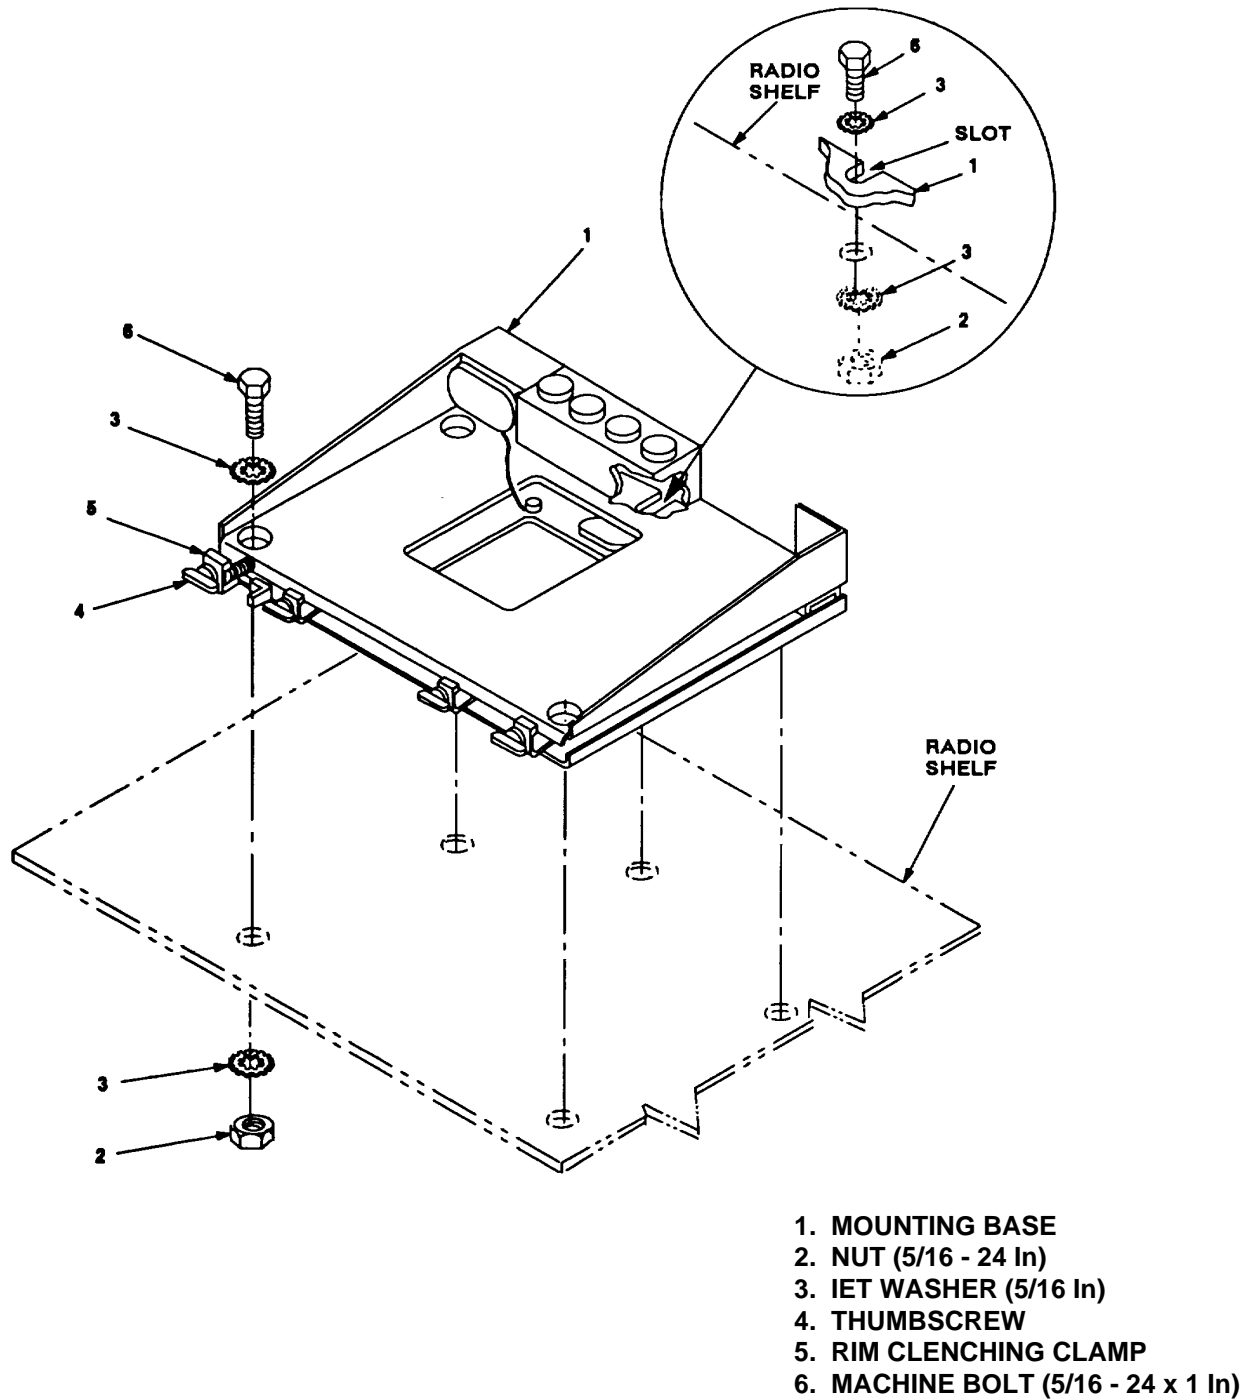

Figure 5-4. Mounting Base Installation
5.2 Installation of Mounting Base, Electrical Equipment MT-6352/VRC (mounting base). Remove and retain attaching bag of 5/16 in mounting hardware for installation. To insure good electrical grounding, any rust, corrosion or paint around mounting holes in radio shelf should be removed before installing the mounting base. See figure 5-4 and perform the following steps to install two mounting bases. See figure 5-1 for locations.
a. Communications equipment rack.	If required, increase height of opening for lower right radio system to 9 1/8 in minimum. See figure 5-4.
b. Mounting base (1). holes.	Place on radio shelf over existing
c. Two outer thumbscrews (4).	Turn ccw until both sets of threads have cleared center of holes.
d. Mounting base (1).	Aline four holes and rear slot with matching hole pattern in shelf.
e. Five machine bolts (6), ten IET washers (3), and five nuts (2).	Install and secure to mounting base (1) and shelf.	Tools: 1/2 in socket and 1/2 in open/box wrench.
f. Two outer thumbscrews (4).	Tighten and secure to rim clenching clamps (5) and mounting base (1).